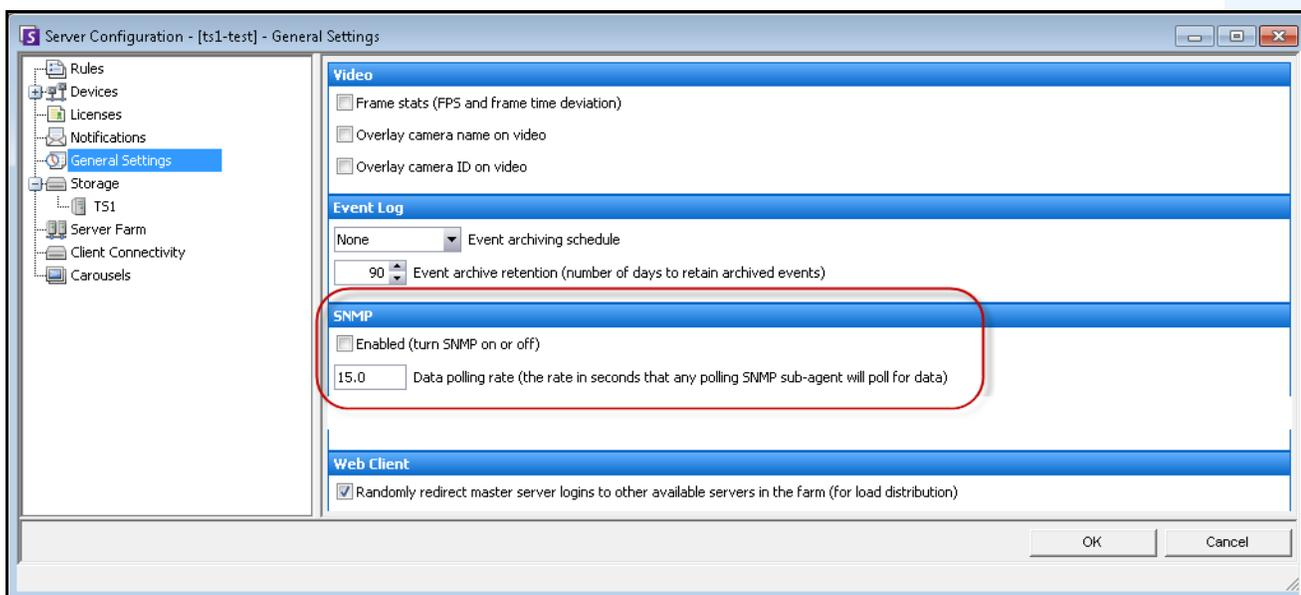

Figure 51. General Settings dialog box featuring SNMP
2. In the left pane, click **General Settings**. The **General Settings** dialog box opens (Figure 51).